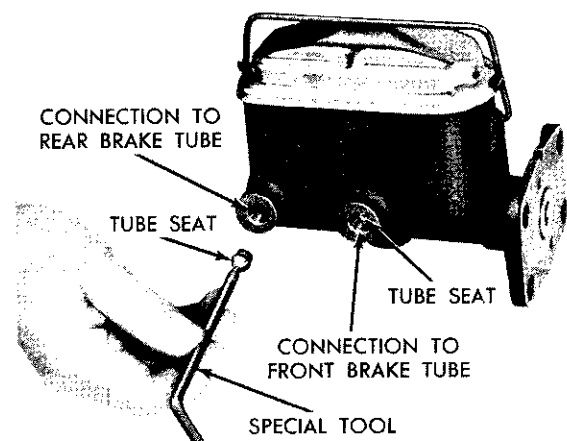

Fig. 2—Removing Tube Seats
(1) Press bail to one side and remove cover and gasket. Empty brake fluid from reservoirs.
(2) Remove piston retaining screw and gasket (Fig. 2), then slide rear piston assembly out of cylinder bore.
(3) Upend master cylinder and tamp (open end
(4) Remove front piston compression spring from bore.
(5) Using Tool T-109-178 (or an easy out) remove tube seats by threading tool firmly into seat, **tap tool** and seat out of cylinder body. (Fig. 2). Discard seats.